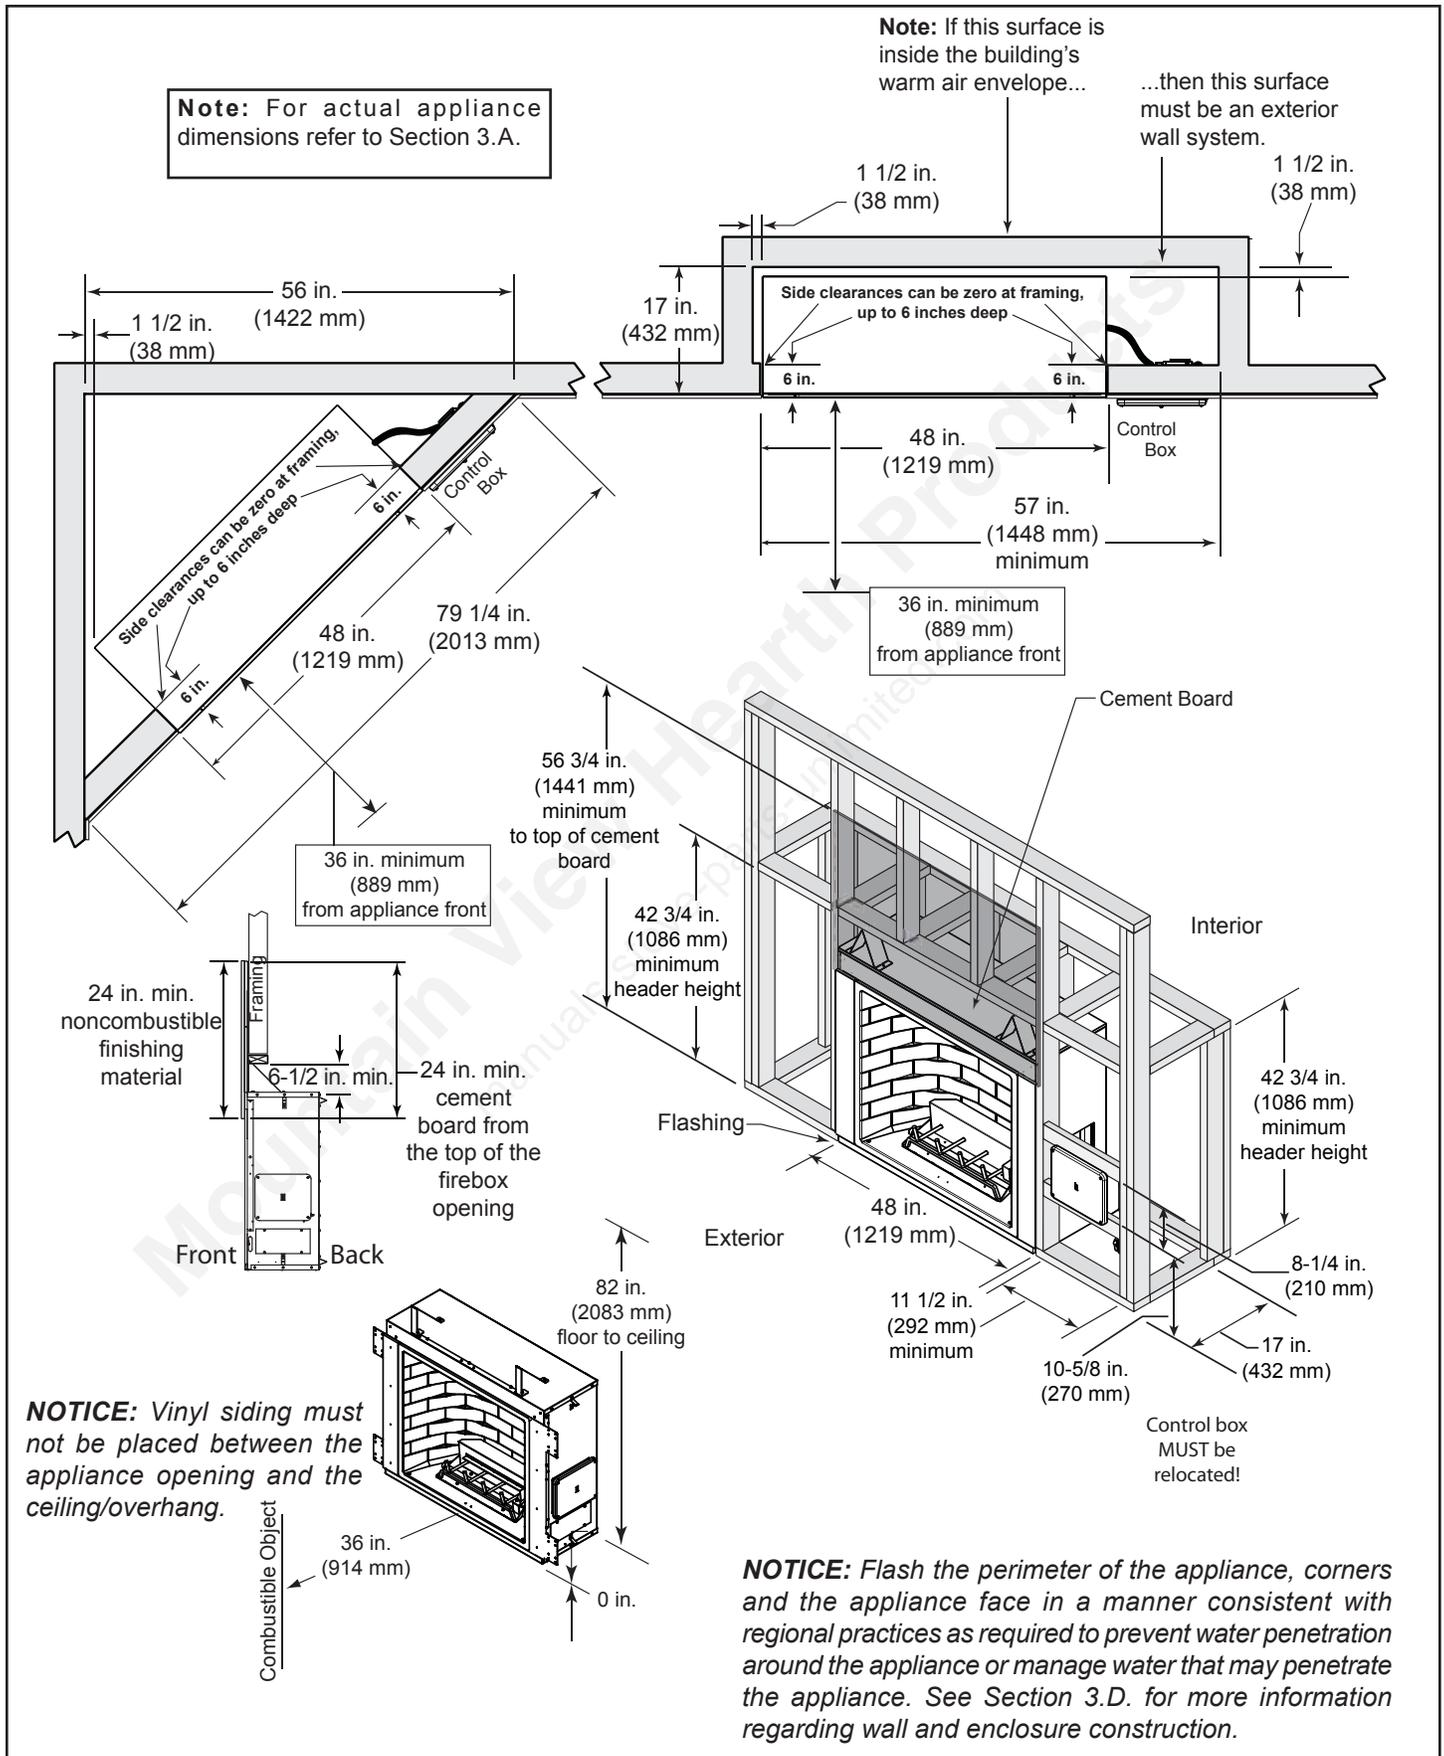
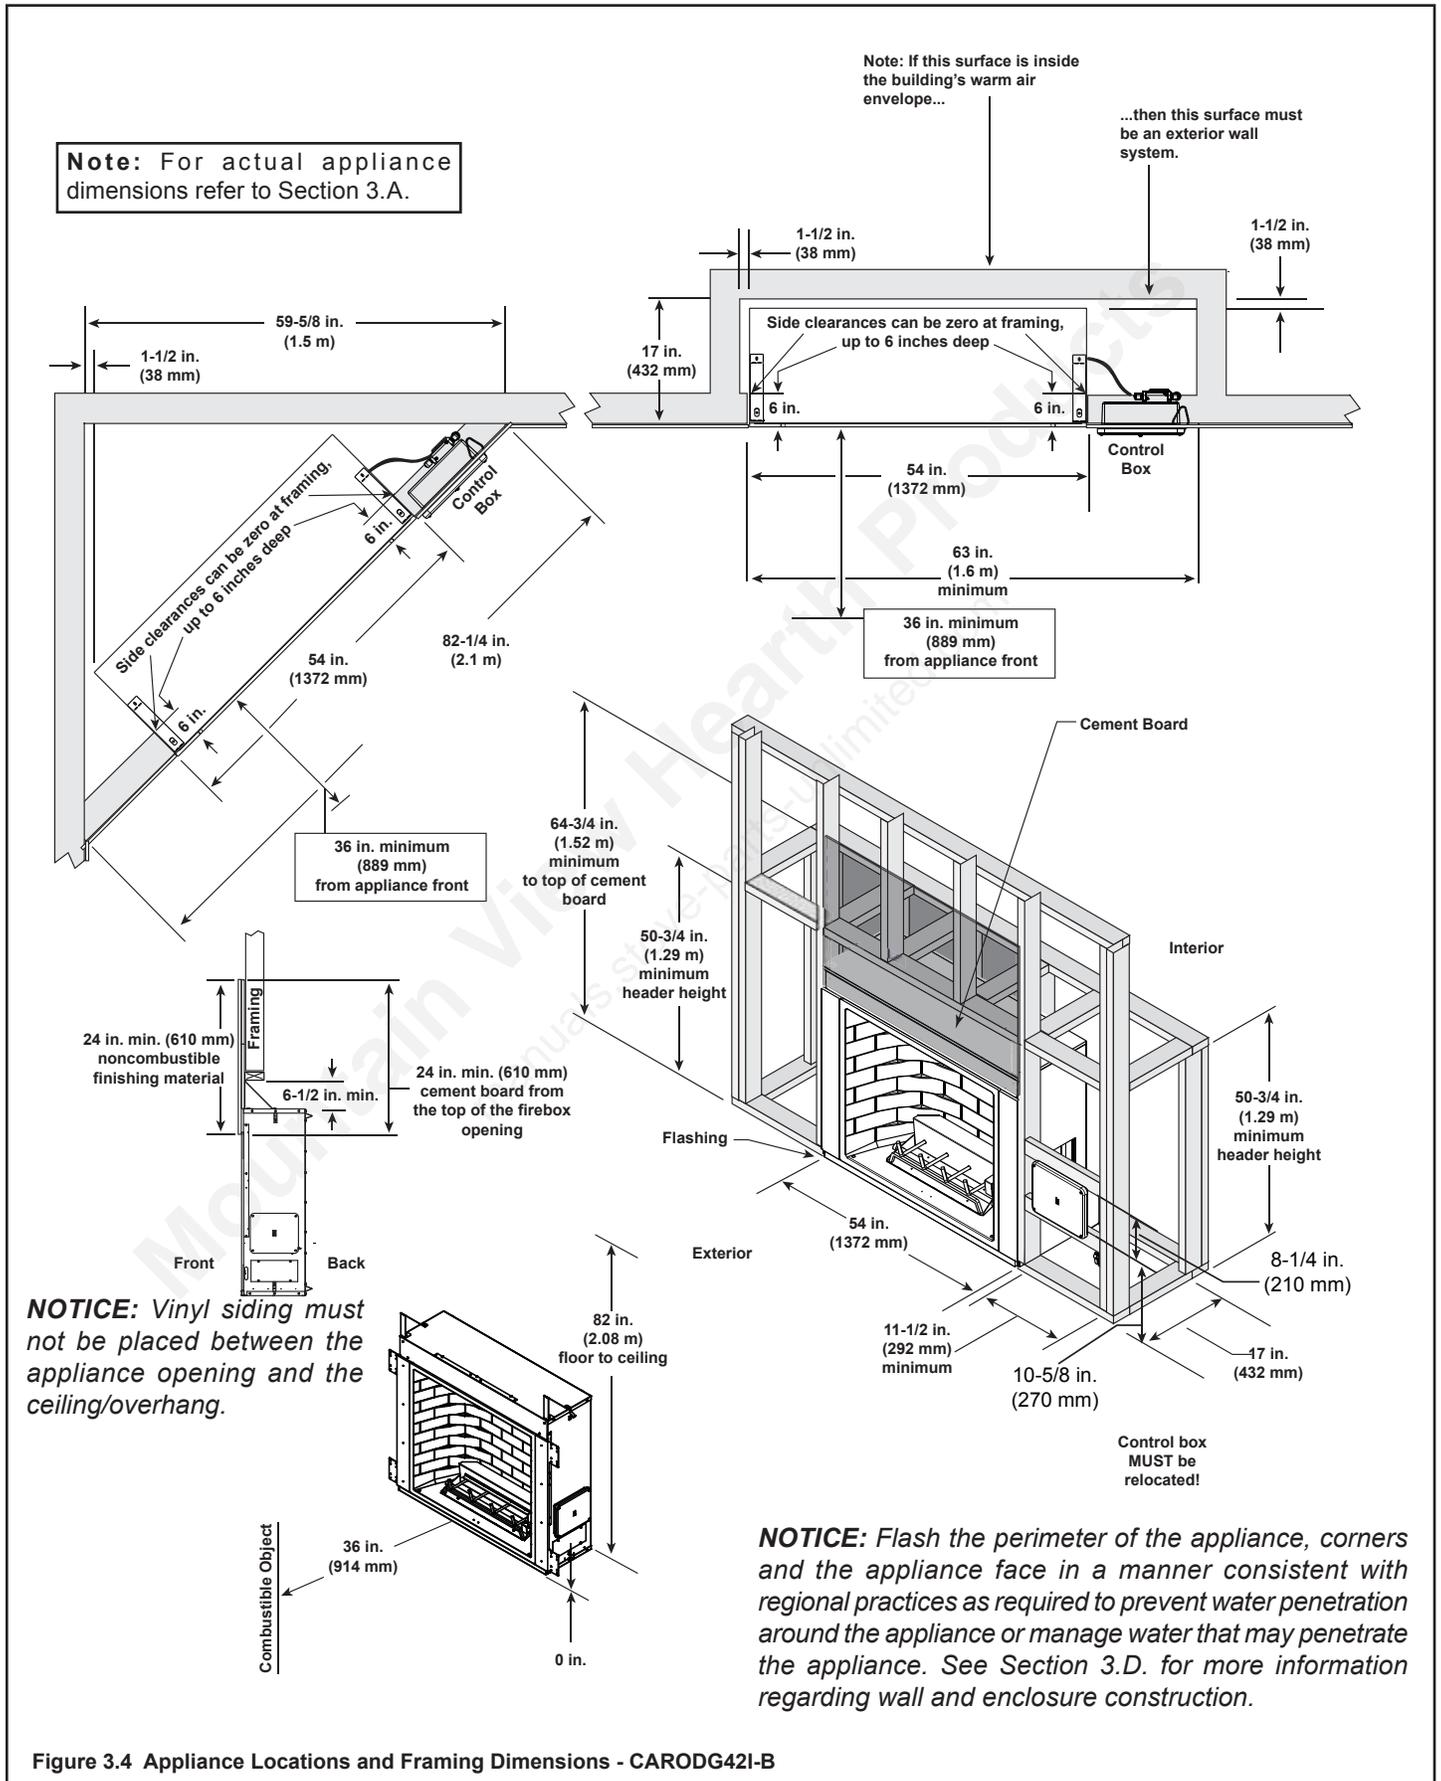
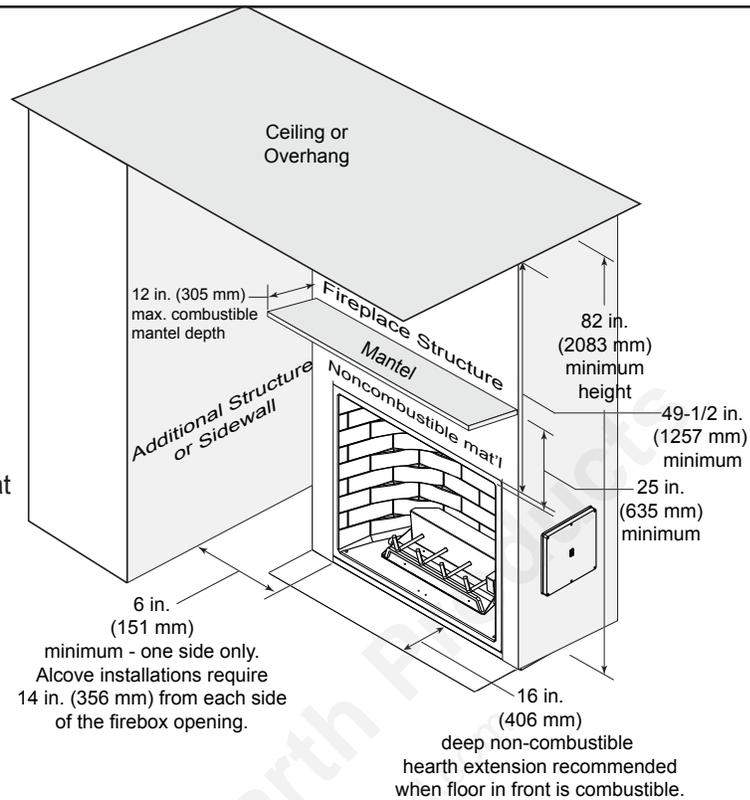

Figure 3.3 Appliance Locations and Framing Dimensions - CARODG36I-B
Figure 3.4 Appliance Locations and Framing Dimensions - CARODG42I-B
Figure 3.5 Clearances to Combustibles
When selecting a location for the appliance it is important to consider the required clearances to walls. See Figure 3.3, Figure 3.4 and Figure 3.5.
- See Figure 3.3, Figure 3.4 and Figure 3.5 for required clearances.
- When installed on wood, a 16" noncombustible hearth extension in front of the appliance is recommended. See Figure 3.5.
- See framing measurements in Figure 3.3 and 3.4.
- You must maintain 1 ½ in. (38mm) air space at the back and sides (except the first 6 inches from the front can be zero to the framing). See Figures 3.3 and 3.4.